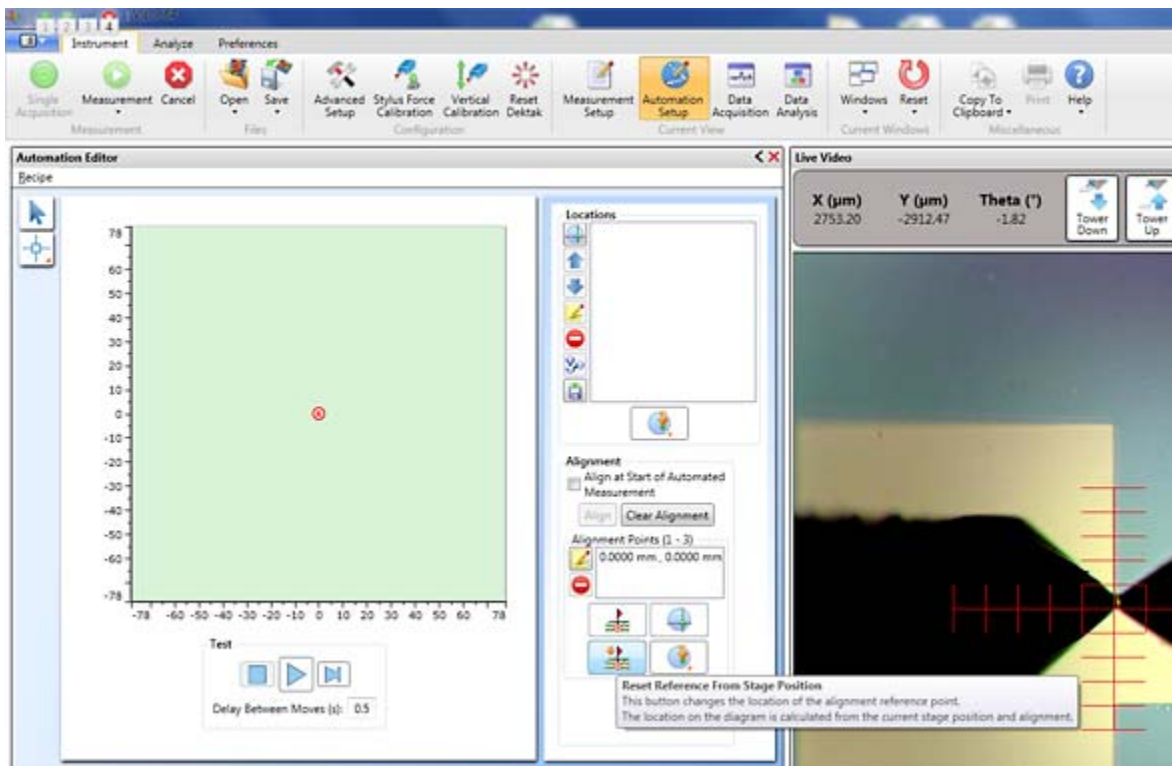

Figure 5-3: Setting the Deskew Reference Point
- d. In the Automation Editor, click **Reset Reference From Stage Position**. A red circle enclosing an R now appears in that location (see **Fig. 5-3 Setting the Deskew Reference Point**).